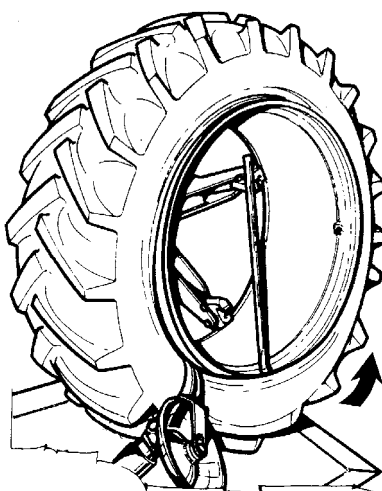

Fig.46
6. Lift the chuck arm to move the hook tool away from the rim edge (1" or 2-3 cm). Move the tool towards the outside to apply the long tire bar (Fig.46).